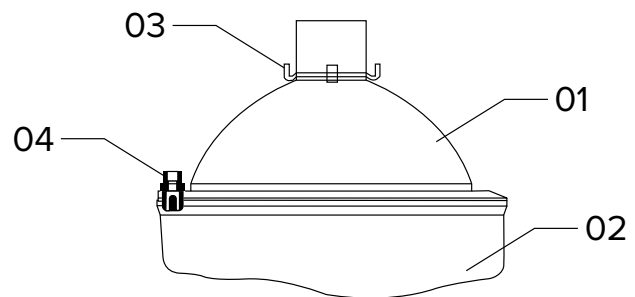

Figure 1: Anesthesia Mask Diagram
As is shown in Figure 1, the Anesthetic Mask consists of a shell (1), air cushion (2), retaining ring (3), and inflation port (4).